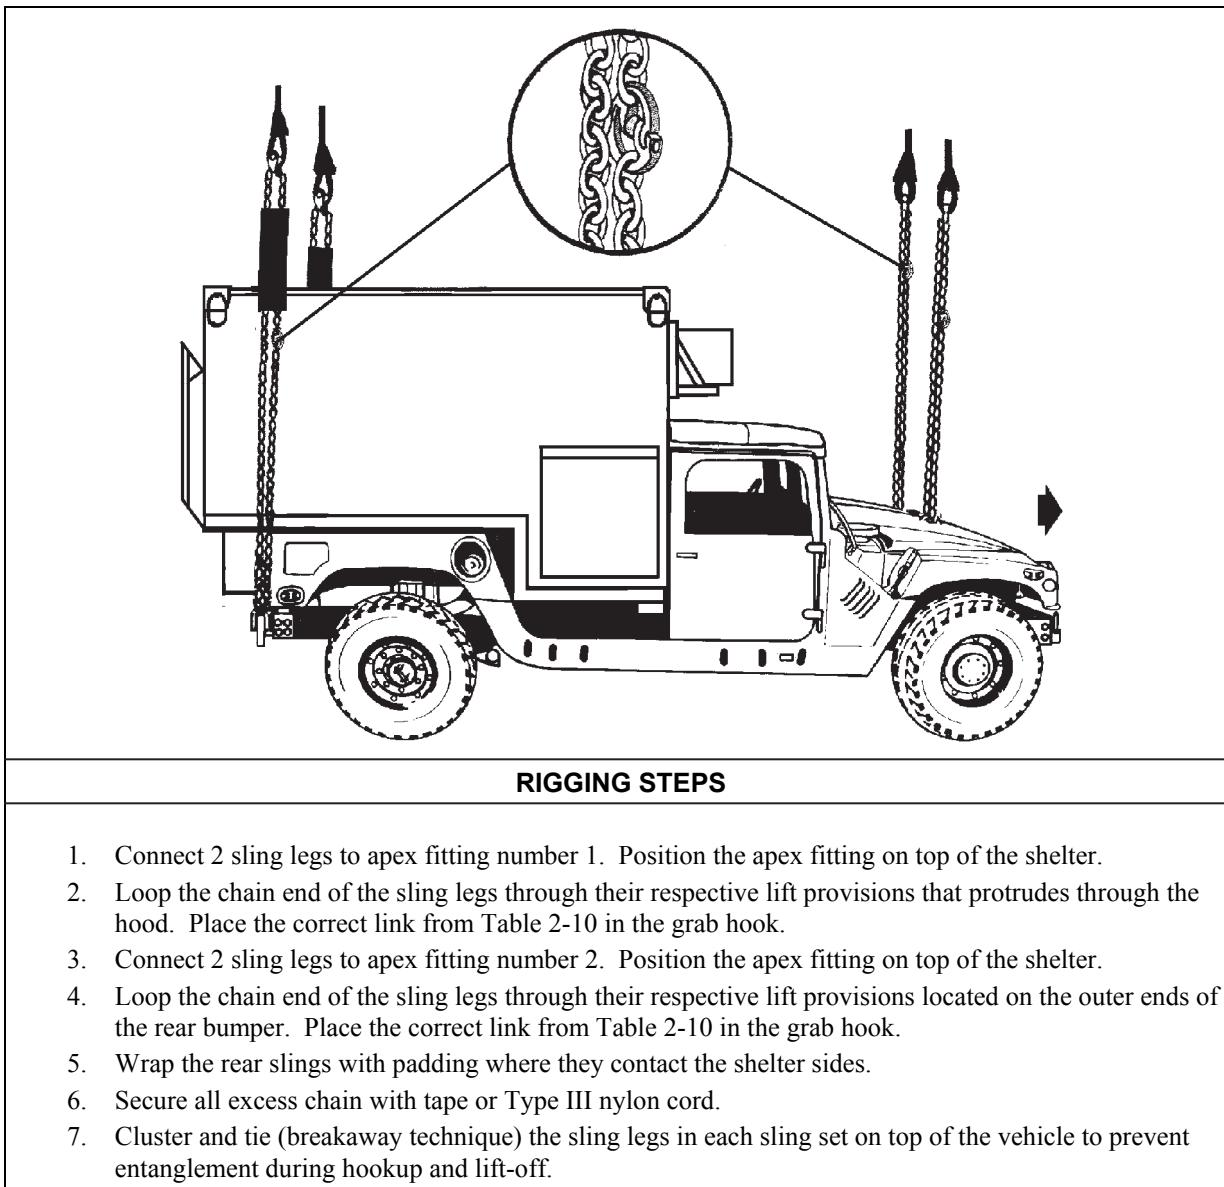

Figure 2-9. M1097/M1113 Shelter Carrier with Gitchner Model 1497A Shelter
- **Rigging.** Rig the load according to the steps in Figure 2-9.